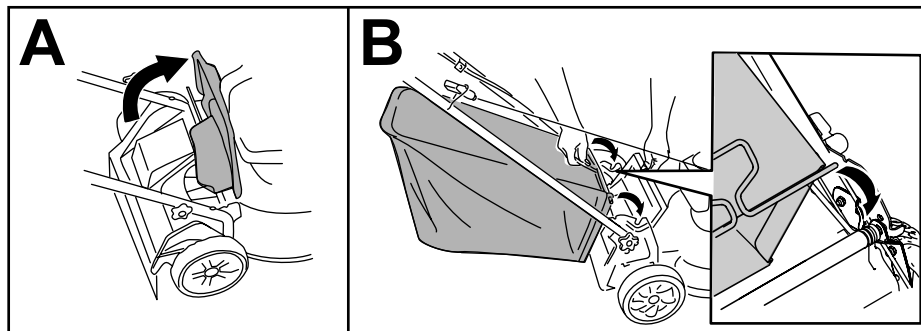

Figure 14
1. Lift up the rear deflector (A of Figure 14).
2. Insert the rod ends of the grass bag into the notches in the handle brackets (B of Figure 14).